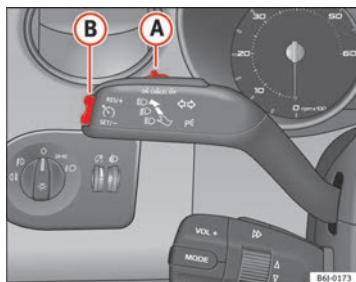

Fig. 112 Turn signal and main beam headlight lever; switch and rocker switch for the cruise control
- Press the lower part **SET** of the rocker switch ⇒ Fig. 112 **(B)** once briefly when you have reached the speed you wish to set.